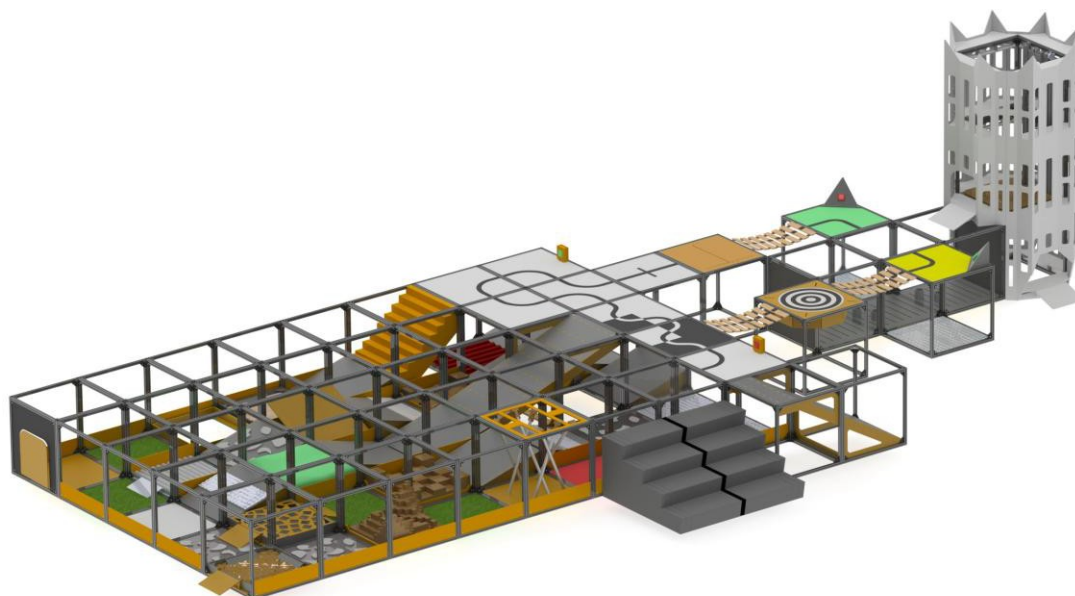

Figure 1 General view of the testing area configuration
- 2.1. The testing area is an automated, reconfigurable obstacle course consisting of cells that a mobile robot must be designed to get through. The general view of the possible configuration of the testing area is shown in Figure 1.